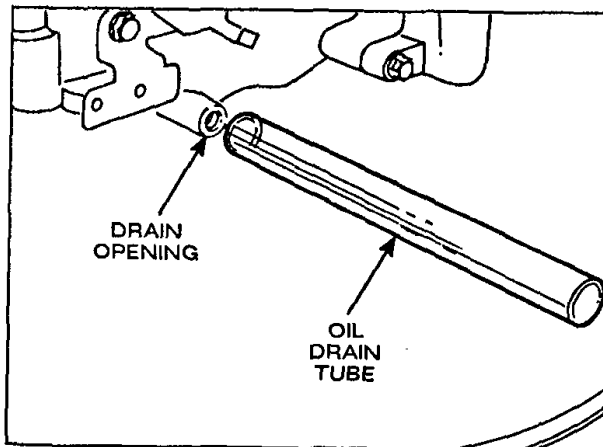

Figure 16
3. Raise left side of mower at least 12 inches. Remove drain plug using a 14mm wrench. Insert oil drain tube over drain opening (Fig. 16).